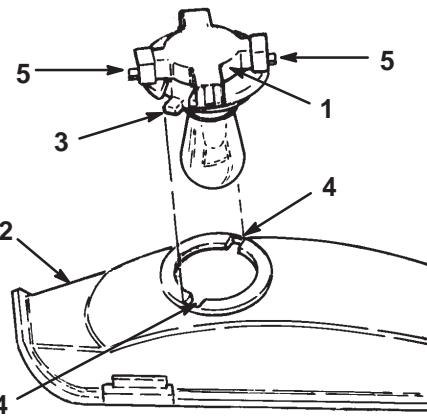

Figure 30
3. Rotate the bulb holder 1/4 turn counterclockwise and remove it from the reflector (Fig. 30).
2. The bulb holder has two tabs (Fig. 30). Align the tabs with the slots in the reflector, insert the bulb holder into the reflector, and rotate it 1/4 turn clockwise until it stops.